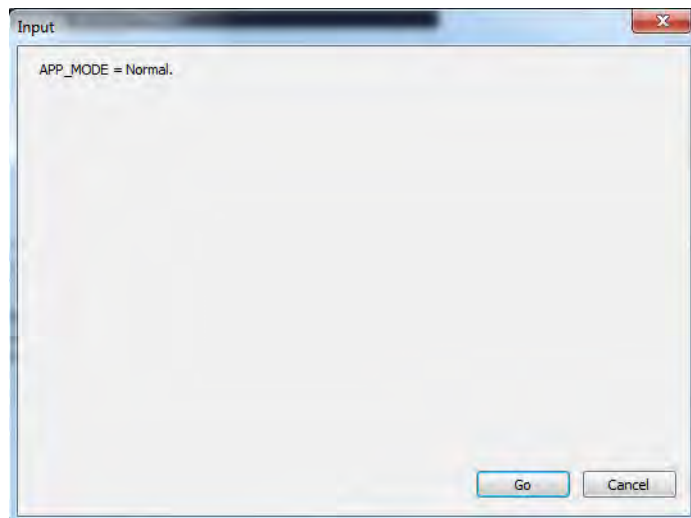

Figure 108 Mode Confirmed
4. Click **GO** and Figure 108